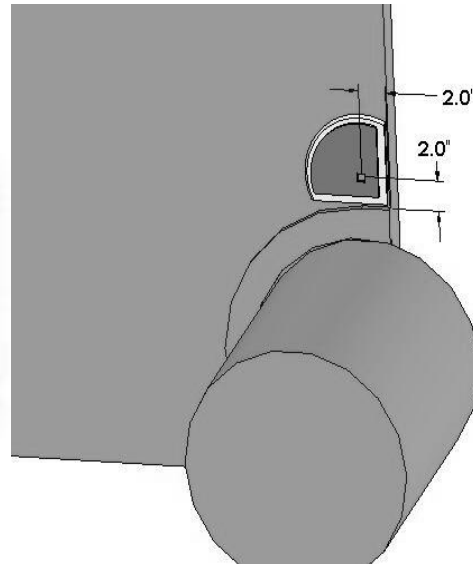

Figure 7
4. The mounting hole will be 3/4" (19mm) in diameter. The disc will need to be placed on the baler to line up the location of 2" (51mm) up from bottom and 2" (51mm) from the back of the chamber to the center of the bolt. (Figure 7)